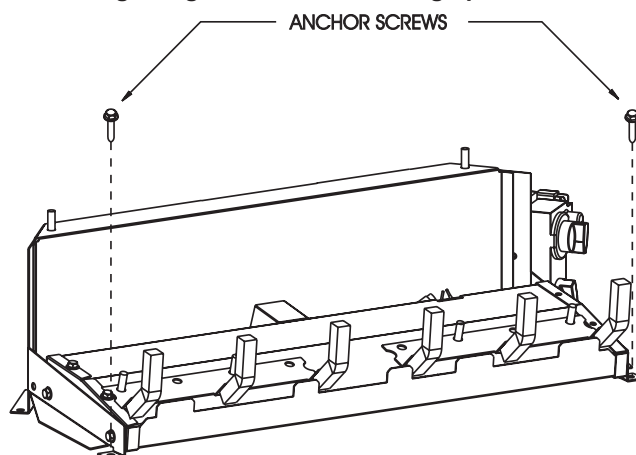

Figure 10
Assembly Procedure: (Figure 10)
2. An anchor hole is provided in the two bottom side members of the grate frame. After centering the grate correctly, mark the hole positions on the fireplace/firebox floor. Drill two (2) 5/32" diameter holes approximately 1 1/2" deep for masonry screws or 1/8" hole for sheet metal screws.
3. Anchor the grate to the fireplace/firebox floor using the screws provided. Refer to Figure 10.